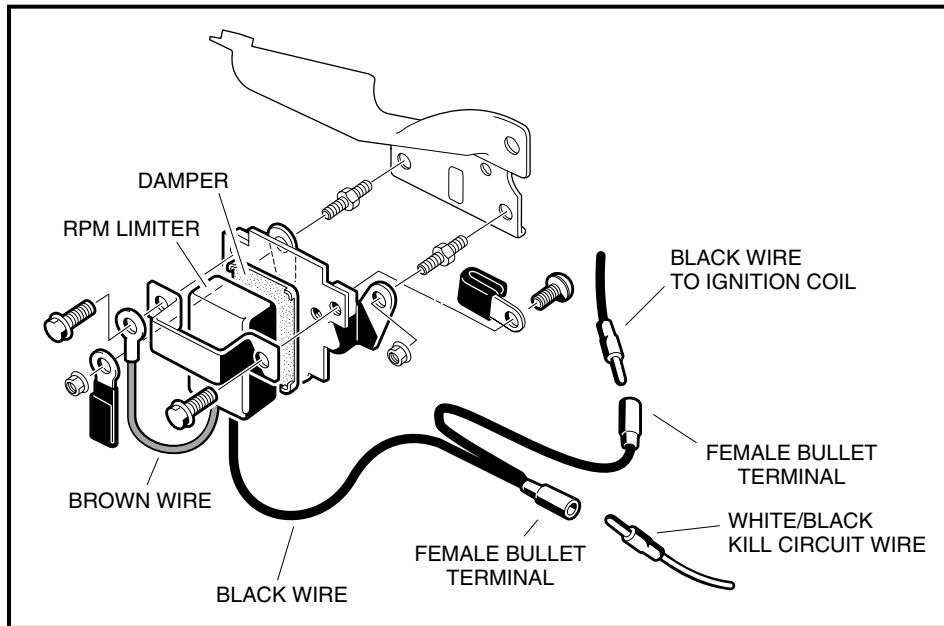

Figure 12-25 RPM Limiter Assembly
3. Disconnect the white/black wire from the black wire at the bullet connector located near the RPM limiter (**Figure 12-25, Page 12-23**).
2. Place the RPM limiter with damper on the front of the RPM limiter mounting bracket (**Figure 12-25, Page 12-23**).